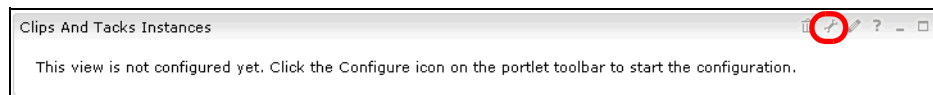

Figure 14-69 Configure Instances view
- ▶ At the right of the portlet there is a set of icons. Click the *configure* icon  (Figure 14-69).
To personalize the KPI view, click Edit  (Figure 14-69 on page 465):